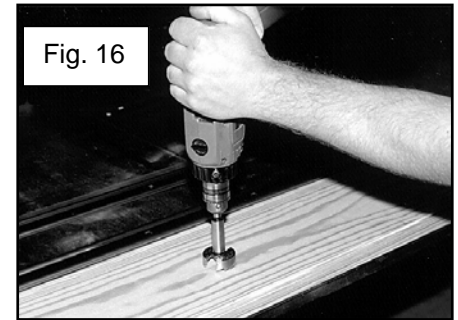

Fig. 16
21. On the top surface of the wood boards, countersink each location approximately 1/8" to 5/32" deep. Use a 1-7/8" diameter Forstner bit and a drill press if available. A hand drill could be used but it is not recommended. See figure 16.